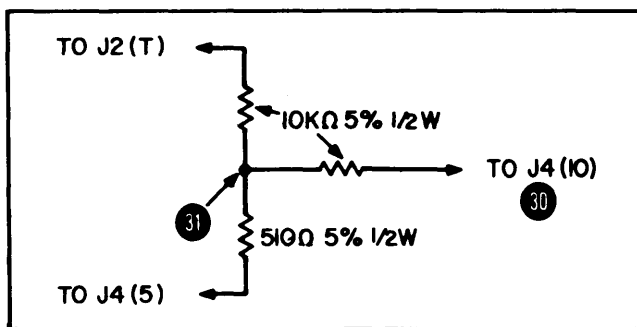

Figure 5-6. Resistance Network for Checks
5-50. VARIABLE RESISTANCE CIRCUIT. Connect resistance network as shown in Figure 5-6. Dc voltage at test point 24 should be between +5.3 and +6.1 volts. Dc voltage or waveform changes at test points 25 through 30 are shown Fig. 7-6 ③ for a CRL control change of +0.2% or -0.2% from bridge balance point.